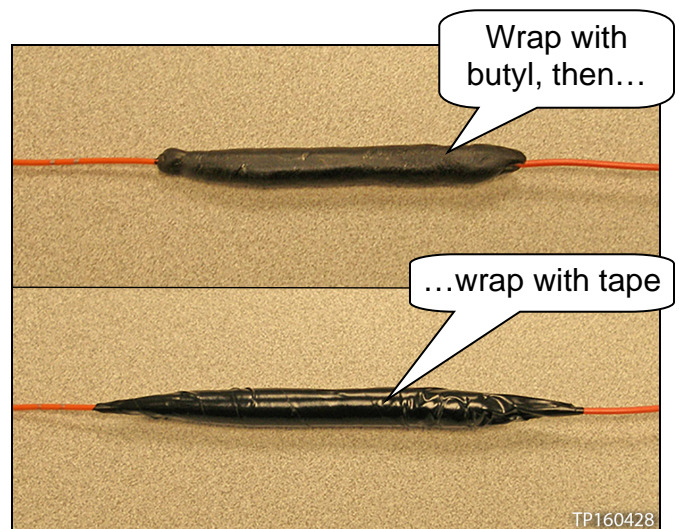

Figure 20
18. Wrap the solder sleeve connector (see Figure 20):